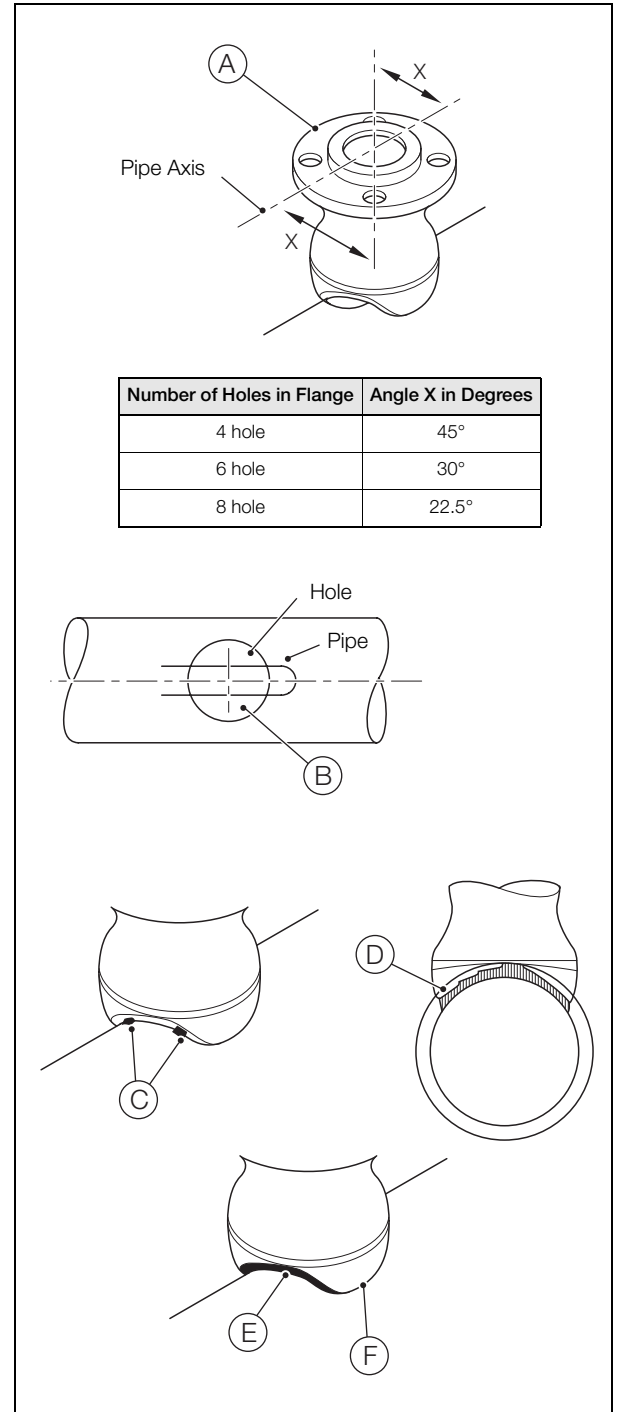

Fig. 2.10 Pipe Flange and Stub Installation
3. Referring to Fig. 2.10:
- a. Place the pipe flange and stub fitting (A) centrally over the drilled hole and align it correctly to the axis of the pipe (angle X) according to the number of bolt holes in the flange. Ensure it is perpendicular to the pipe axis and square to the pipe plane.
- b. Use suitable spacers (B) to raise the pipe flange and stub fitting off the pipe to establish the necessary gap for full-penetration welding.
- c. Tack-weld at four points (C) midway between the crotch and the skirt sections of the fitting.